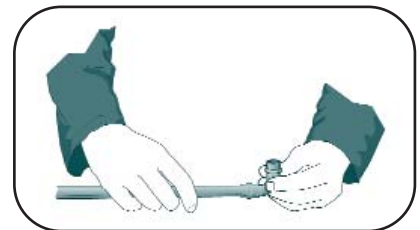

Figure 4
4. Check that the 'O' ring is seated correctly in the fitting socket. (Figure 4)